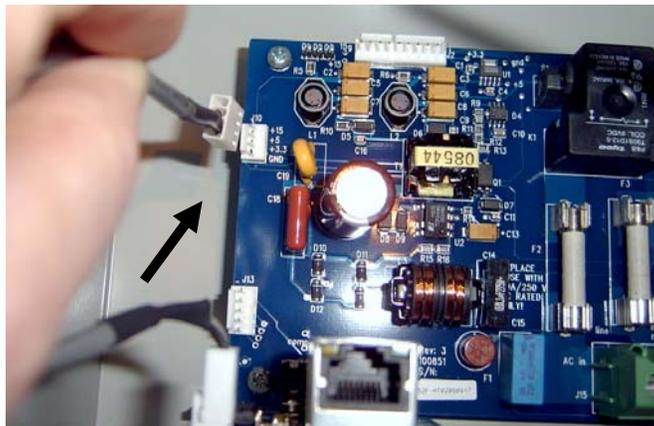

Figure 4
6. Plug the power cable (provided in the product package) into the J10 connector of the inverter power board (Figure 4).